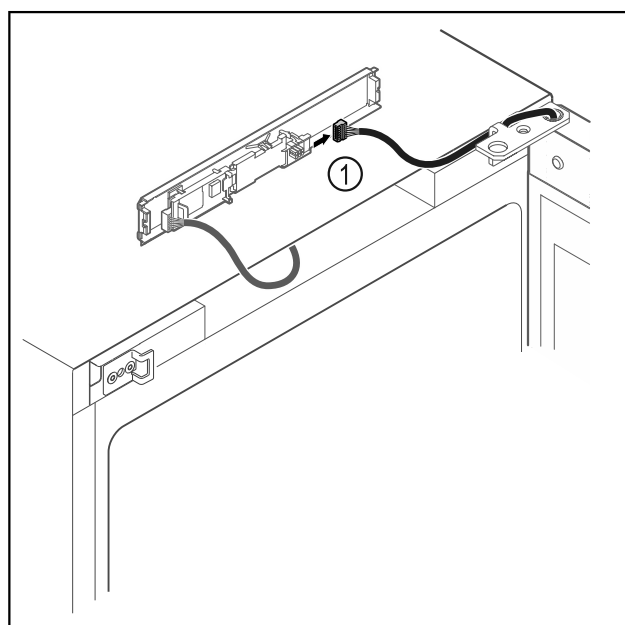

Fig. 17
- Disconnect the plug Fig. 17 (1) from the circuit board.